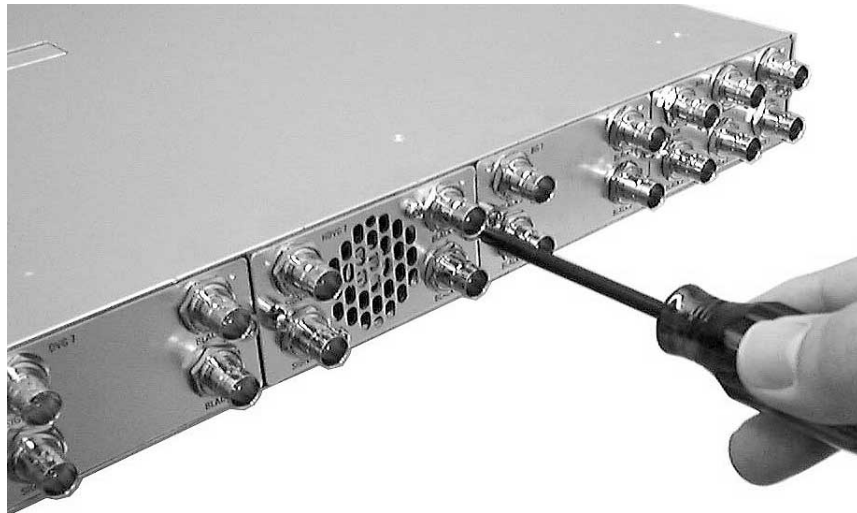

Figure 4: Securing the module
6. Tighten the two screws to secure the module to the mainframe. See Figure 4.